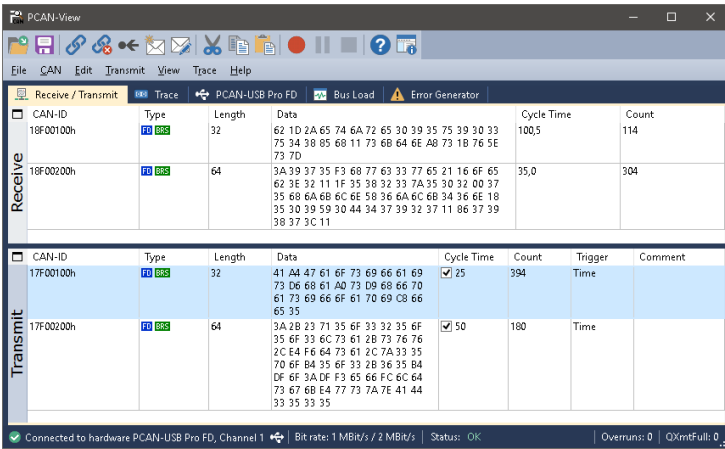

Figure 14: Receive/Transmit tab
9. Confirm the settings in the dialog box with **OK**. The main window of PCAN-View appears (see Figure 14).